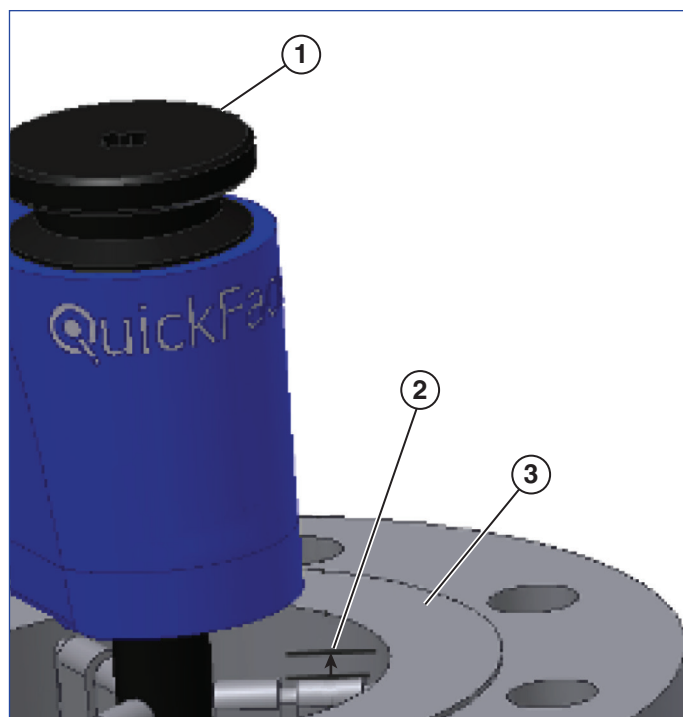

Figure 10
- Install the QuickFace into the work piece with the top of the locator, or locator extension if used, about 1/8 in. (3 mm) below the flange face (see Figure 10). Turn the mandrel locking knob clockwise to tighten the locators. Slightly rock the QuickFace back and forth while tightening to make sure it is firmly seated in the work piece. If the QuickFace mandrel cannot be tightened firmly by hand, insert a ratchet wrench into the end of the mandrel locking knob. **DO NOT OVERTIGHTEN THE MANDREL LOCKING KNOB OR DAMAGE CAN OCCUR!** The mandrel is tight enough when the QuickFace does not move when lifting up on the end of the gearbox housing.